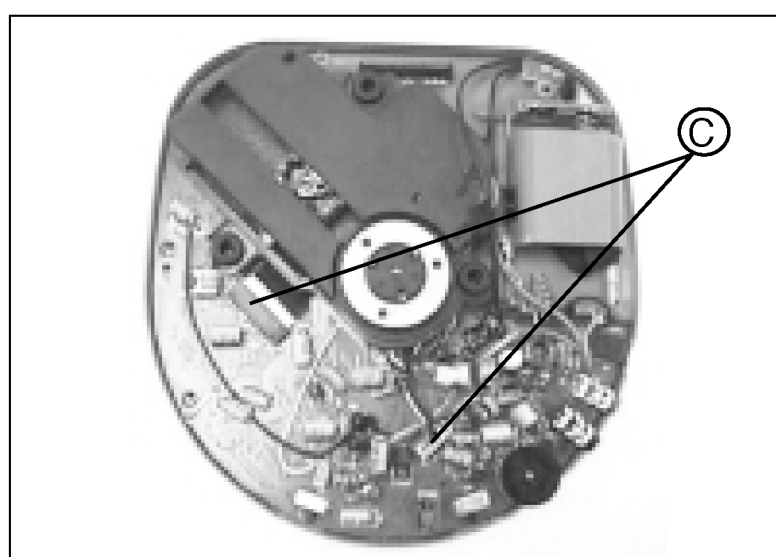

Fig. 3
- Disconnect the connector CN1 and CN2 (C) (Fig. 3)